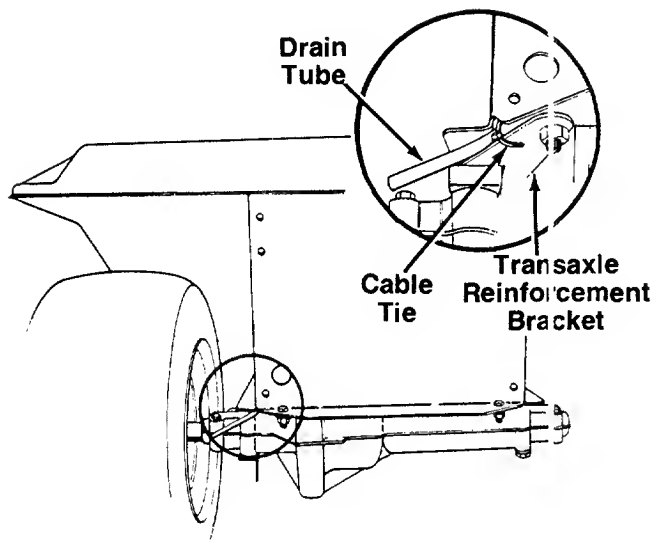

FIGURE 4.
5. Route the drain tube through the opening between the transaxle reinforcement bracket and the frame on the left rear of the unit. Secure the drain tube to the transaxle reinforcement bracket, using the cable tie as shown in figure 4. Be certain drain tube is routed away from the wheel rim. Trim excess end of cable tie.